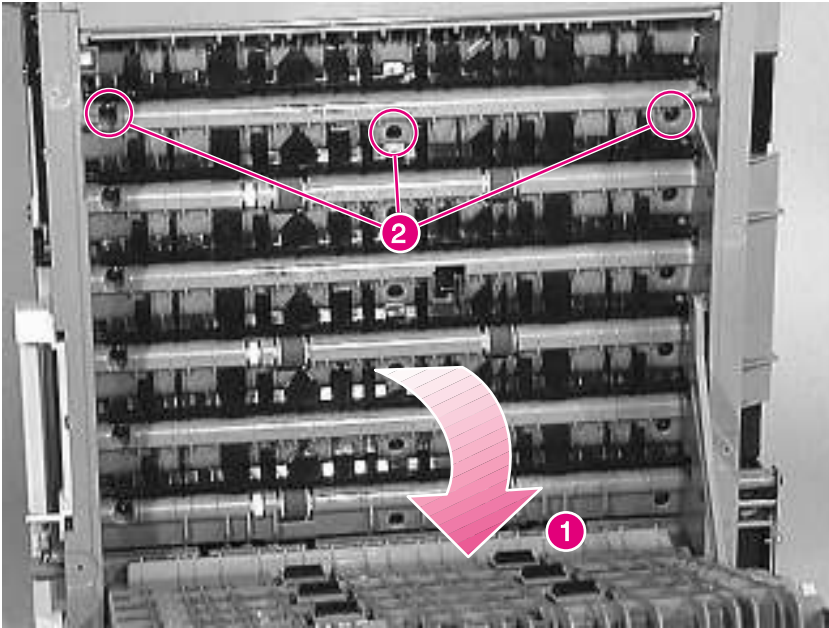

Figure 6-131 Face-down Bins (1 of 3)
- 4 Replace 3 screws (figure 6-131, callout 2).